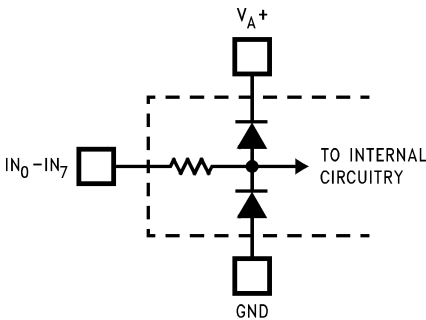

Figure 3.
- (1) Two on-chip diodes are tied to each analog input through a series resistor, as shown below. Input voltage magnitude up to 5V above V_{A+} or 5V below GND will not damage the LM12L458. However, errors in the A/D conversion can occur if these diodes are forward biased by more than 100 mV. As an example, if V_{A+} is 3.0 V_{DC} , full-scale input voltage must be $\approx 3.1 V_{DC}$ to ensure accurate conversions. See Figure 3
- (2) V_{A+} and V_{D+} must be connected together to the same power supply voltage and bypassed with separate capacitors at each V^+ pin to assure conversion/comparison accuracy.
- (3) Accuracy is guaranteed when operating at $f_{CLK} = 6\text{ MHz}$.
- (4) With the test condition for $V_{REF} = V_{REF+} - V_{REF-}$ given as +2.5V, the 12-bit LSB is 305 μV and the 8-bit/"Watchdog" LSB is 4.88 mV.
- (5) Typical figures are at $T_A = 25^\circ C$ and represent most likely parametric norm.
- (6) Limits are guaranteed to TI's AOQL (Average Output Quality Level).
- Two on-chip diodes are tied to each analog input through a series resistor, as shown below. Input voltage magnitude up to 5V above V_{A+} or 5V below GND will not damage the LM12L458. However, errors in the A/D conversion can occur if these diodes are forward biased by more than 100 mV. As an example, if V_{A+} is 3.0 V_{DC} , full-scale input voltage must be $\approx 3.1 V_{DC}$ to ensure accurate conversions. See Figure 3
- (3) Accuracy is guaranteed when operating at $f_{CLK} = 6 MHz$.
- (4) Typical figures are at $T_A = 25^{\circ}C$ and represent most likely parametric norm.
- (5) Limits are guaranteed to TI's AOQL (Average Output Quality Level).